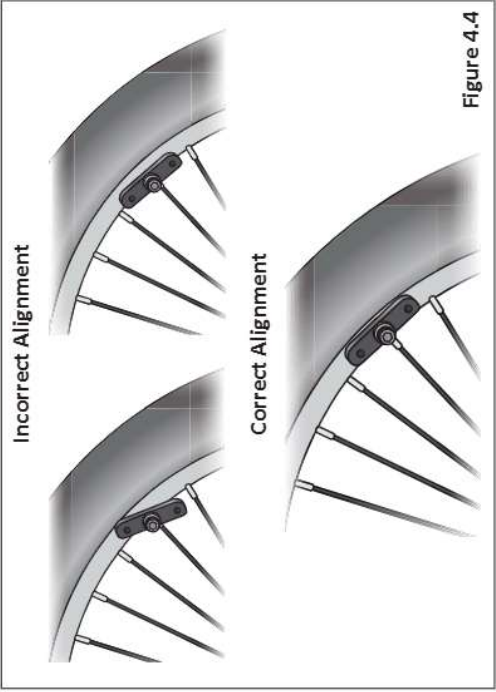

Figure 4.4
- 1 Check that all brake pads are aligned correctly. If not, use a 5 mm allen wrench and loosen the bolt enough so you can reposition the pad. Position the pad so it is evenly centered on the rim. Retighten the bolt after positioning the pad correctly. **Figure 4.4**